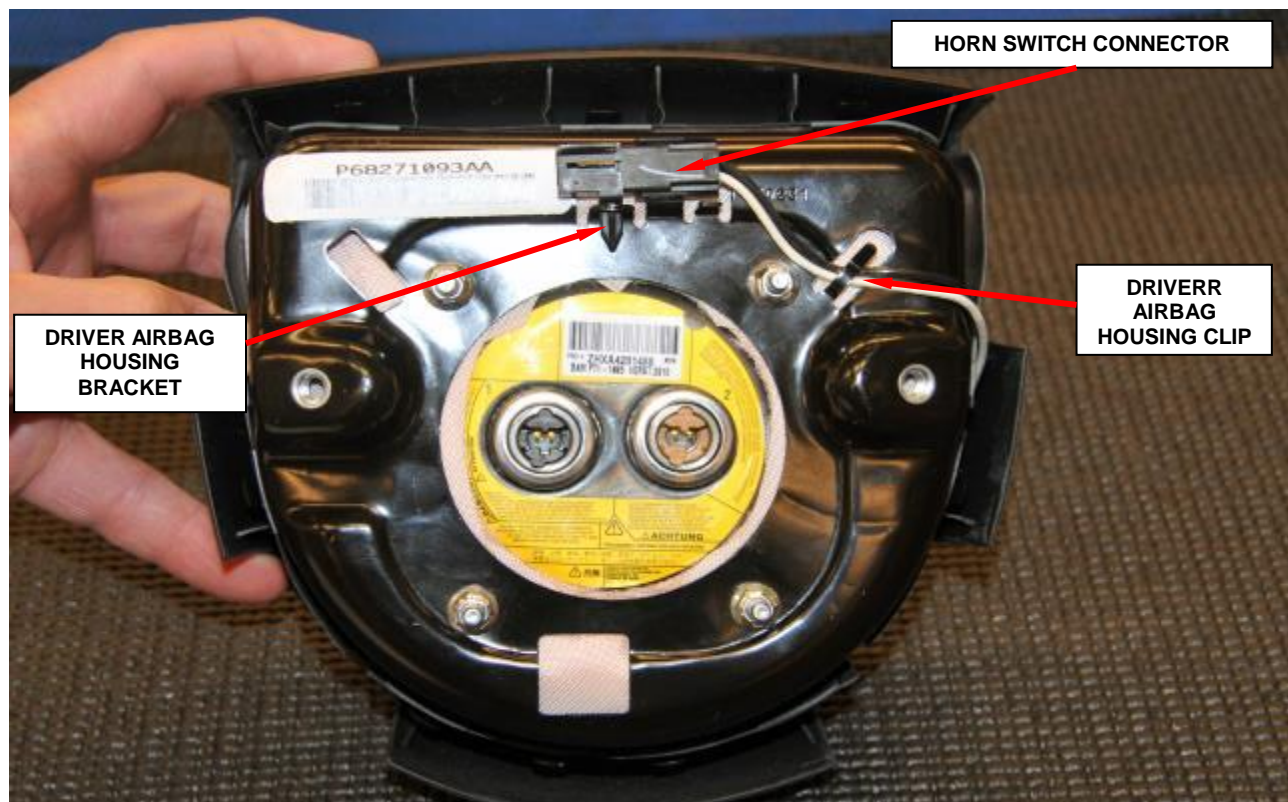

Figure 9 – Horn Switch Connector
20. Clip the horn switch connector to the driver airbag housing bracket (Figure 9).
21. Engage the horn switch wire harness pigtail to the driver airbag housing clip (Figure 9).
22. Driver airbag retrofit is complete (Figure 9).